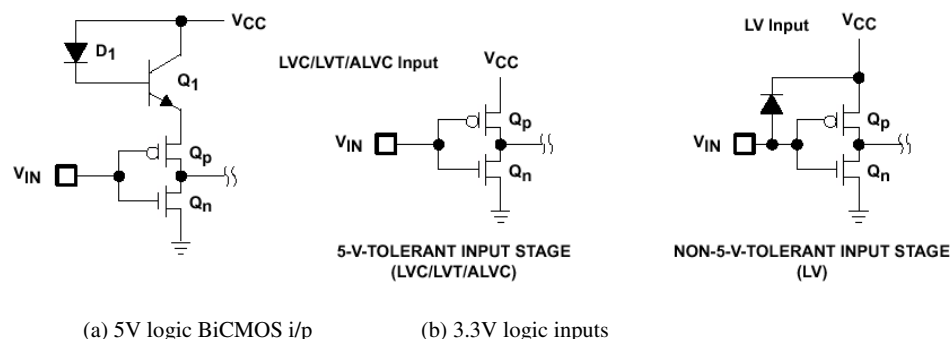

Figure 7.2 Logic input equivalent circuit
- The input is an inverter consisting of a p-channel to VCC and an n-channel to GND, as shown in Figures 7.2.